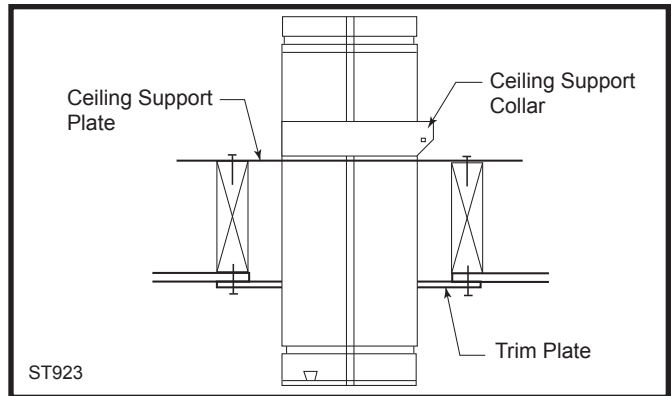

Fig. 37 Ceiling support.
it by screwing the support plate to the top of the properly framed ceiling joist opening, using screws provided. A round trim plate (TP) is attached to the ceiling, using screws, to provide a finished appearance once installed. (Fig. 37)